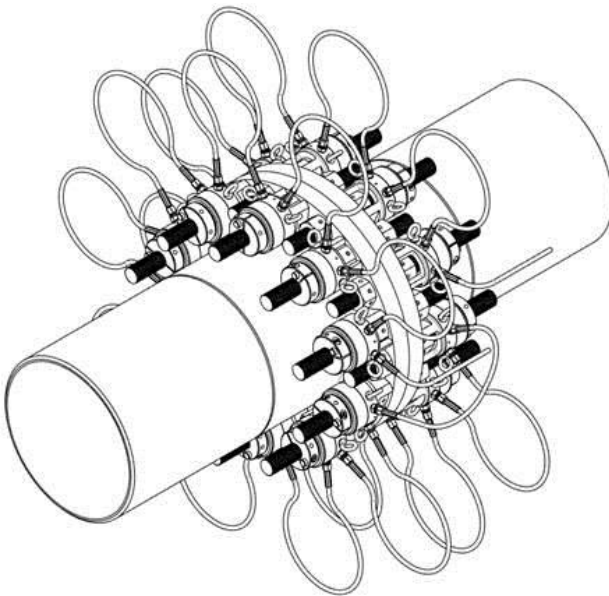

Figure 6a:
- 4.3.1.** Figure 6a illustrates a typical harness assembly for 100% tensioner coverage).
- 4.3.3.3.** For 100% tensioner coverage ensure that a link hose connecting tensioners on one side of the flange to the other exists. (Refer to Figure 6a).
In certain situations, where access is restricted, it may not be possible to attach the hydraulic hoses to the tensioner as shown, in Figures 6a and 6b. In such situations, it may be necessary to attach the hoses at 90° to that shown. This is achieved using banjo assemblies. Reference must be made to Section 6.5 for instructions regarding the assembly of these fittings onto the tools.